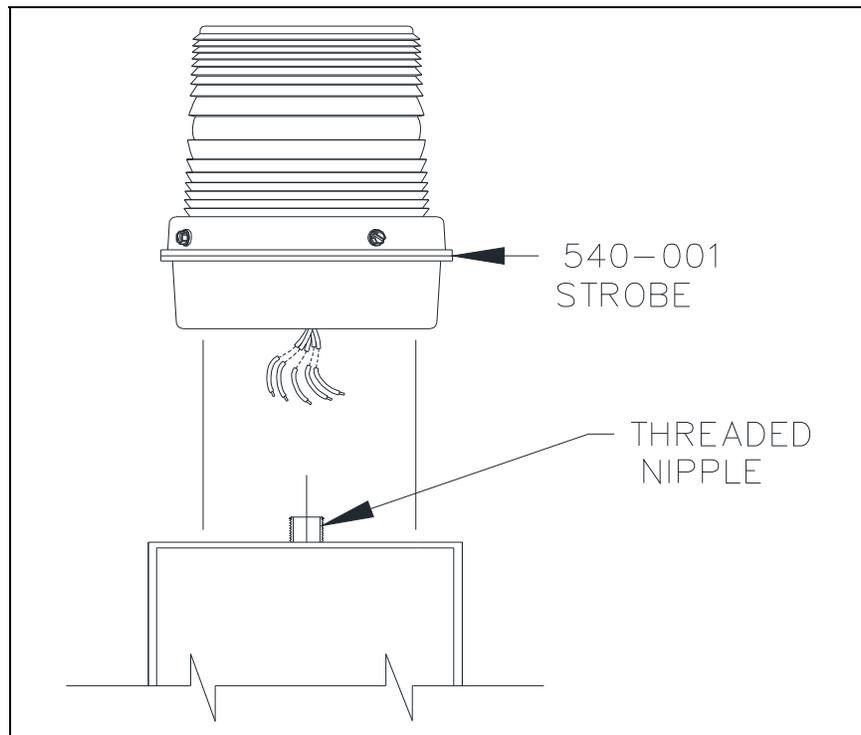

Figure 8. Strobe Assembly
1. Insert the strobe's seven 15-foot wires through the extension and the tower's threaded nipple (when installed), and allow the wires to extend to the base of the tower. Cut the wires to the appropriate length. See Figure 8.